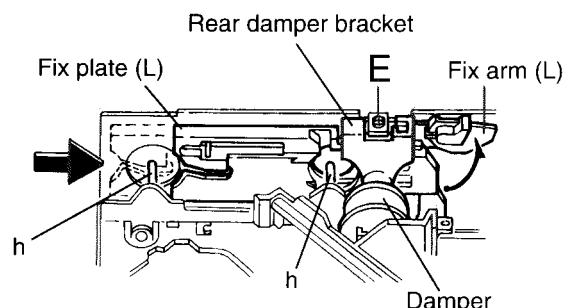

Fig.8
- Raise the both sides fix arms and move the fix plates in the direction of the arrow to place the four shafts A as shown in Fig.8 and 9.